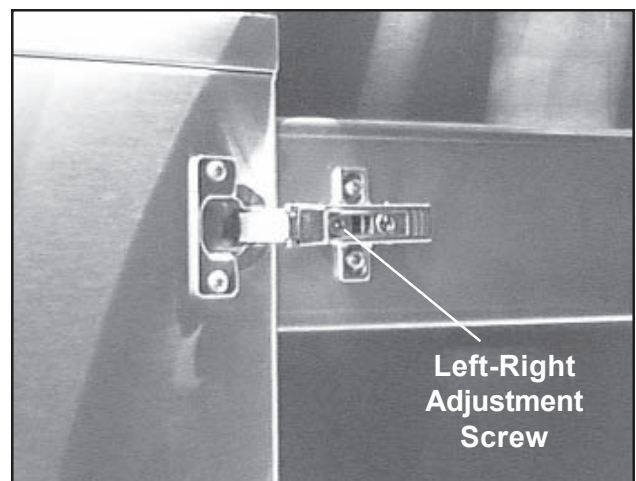

Figure 10. Door Left-Right Adjustment Screw
4. With a Phillips screwdriver, turn the left-right adjustment screw (Figure 10) clockwise to move the door to the right; counterclockwise to move the door to the left.